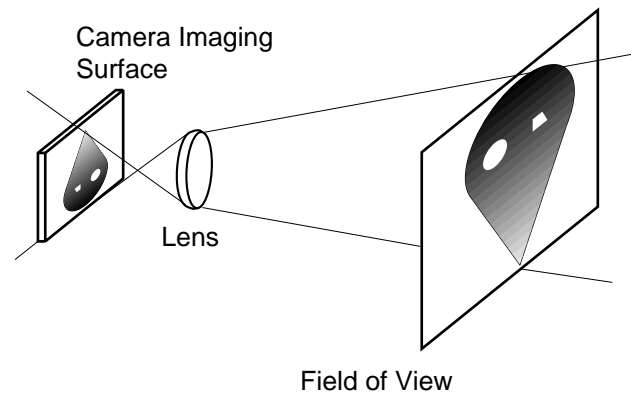

Figure C-1. Camera Imaging
**Figure C-1** shows how an image is produced on the imaging element of the camera. A relationship exists between the camera-to-object distance, the size of the field of view, and the lens focal length. The size of the camera imaging element determines a scaling factor to be applied to this relationship. The relationship is given in the following formula.